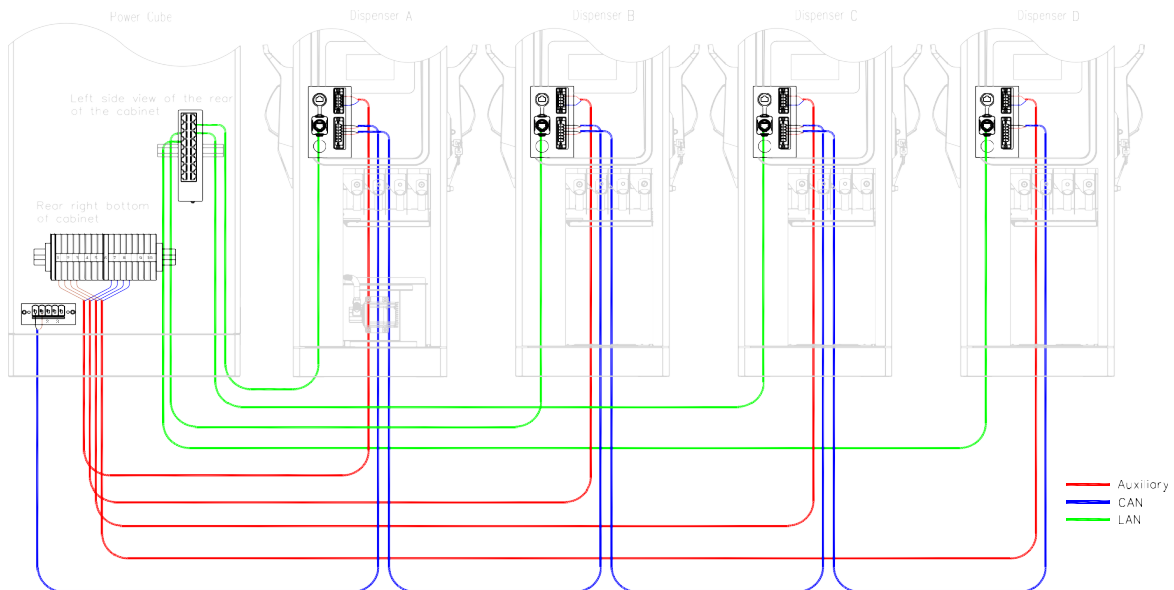

Figure 5.17 Power Cabinet auxiliary power supply and signal cable connection diagram for Slim Line Dispenser.
- The Signal and Auxiliary power connection between Power Cabinet and the Slim Line Dispenser are shown in Figure 5.17 and Cable selection according to table 5-2.